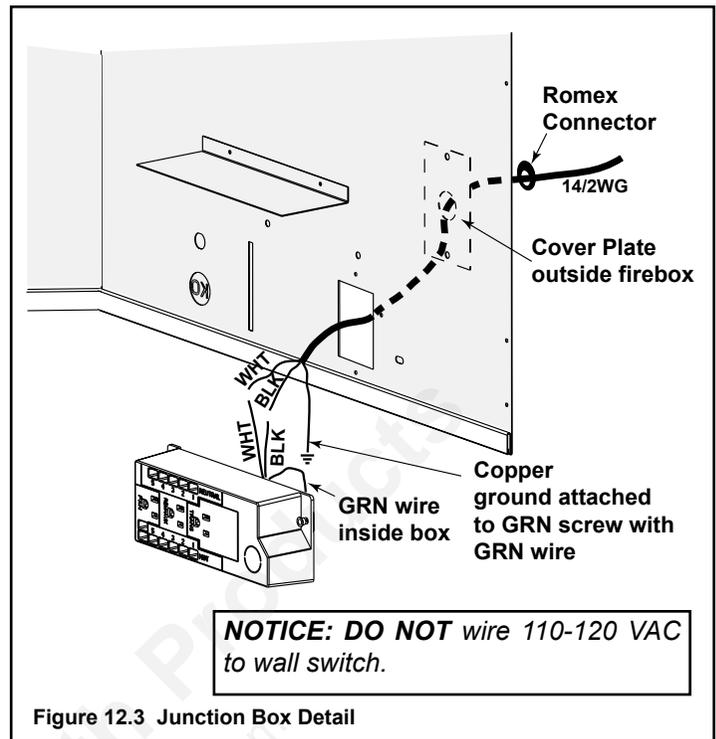

Figure 12.3 Junction Box Detail
- Remove the screw attaching the junction box/receptacle to the outer shell, rotate the junction box inward to disengage it from the outer shell (see Figure 12.3).
- Pull the electrical wires from outside the appliance through the opening into the valve compartment and secure wires with a Romex connector. See Figure 12.3.